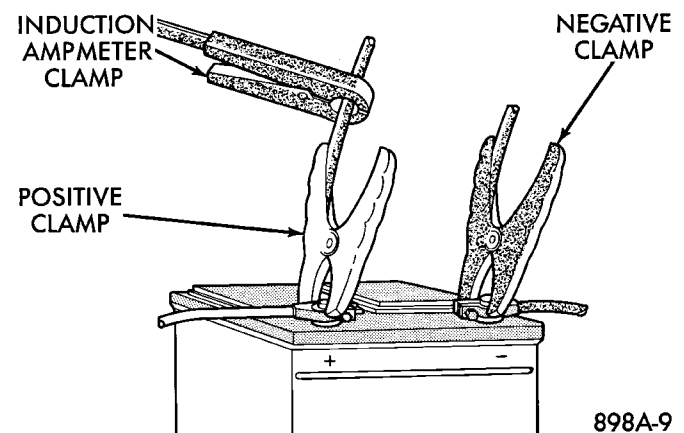

Fig. 8 Volt-Ammeter Load Tester Connections
(1) Remove both battery cables, negative cable first. The battery top, cables and posts should be clean. If green dot is not visible in indicator, charge the battery. Refer to Battery Charging Procedures.
(2) Connect a Volt/Ammeter/Load tester to the battery posts (Fig. 8). Rotate the load control knob of the Carbon pile rheostat to apply a 300 amp load. Apply this load for 15 seconds to remove the surface charge from the battery, and return the control knob to off (Fig. 9).
(1) Remove both battery cables, negative cable first. Battery top, cables and posts should be clean. If green dot is not visible in indicator, charge the battery. Refer to Battery Charging Procedures.